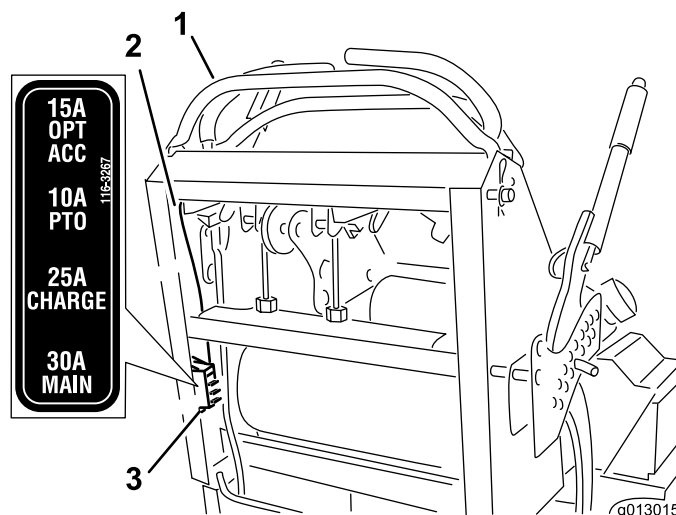

Figure 53
2. Pull out on the fuse to remove and replace it (Figure 53).